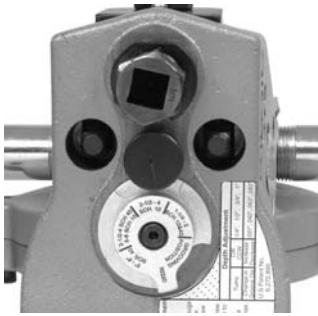

Figure 10A – Place Correct Step of Gauge Under Adjusting Screw Head
2. Adjust the groove depth gauge so that the correct step of the gauge is under the head of the adjusting screw (Figure 10A). The groove depth gauge is